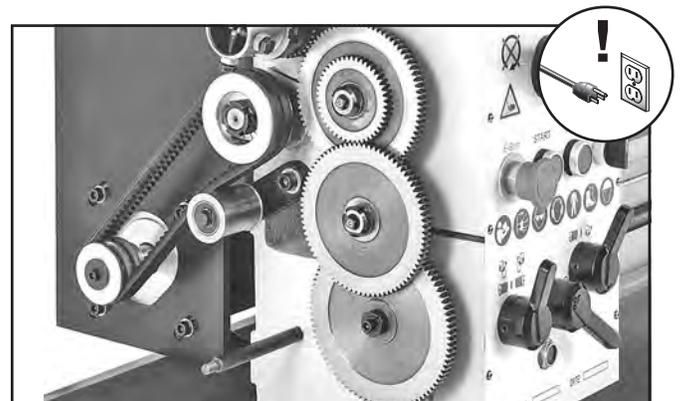

Figure 104. End gears.
The end gears, shown in **Figure 104**, should always have a thin coat of heavy grease to minimize corrosion, noise, and wear. Wipe away excess grease that could be thrown onto the V-belt and reduce optimal power transmission from the motor.
2. Remove end-gear cover and remove all end gears shown in **Figure 104** on **Page 64**.